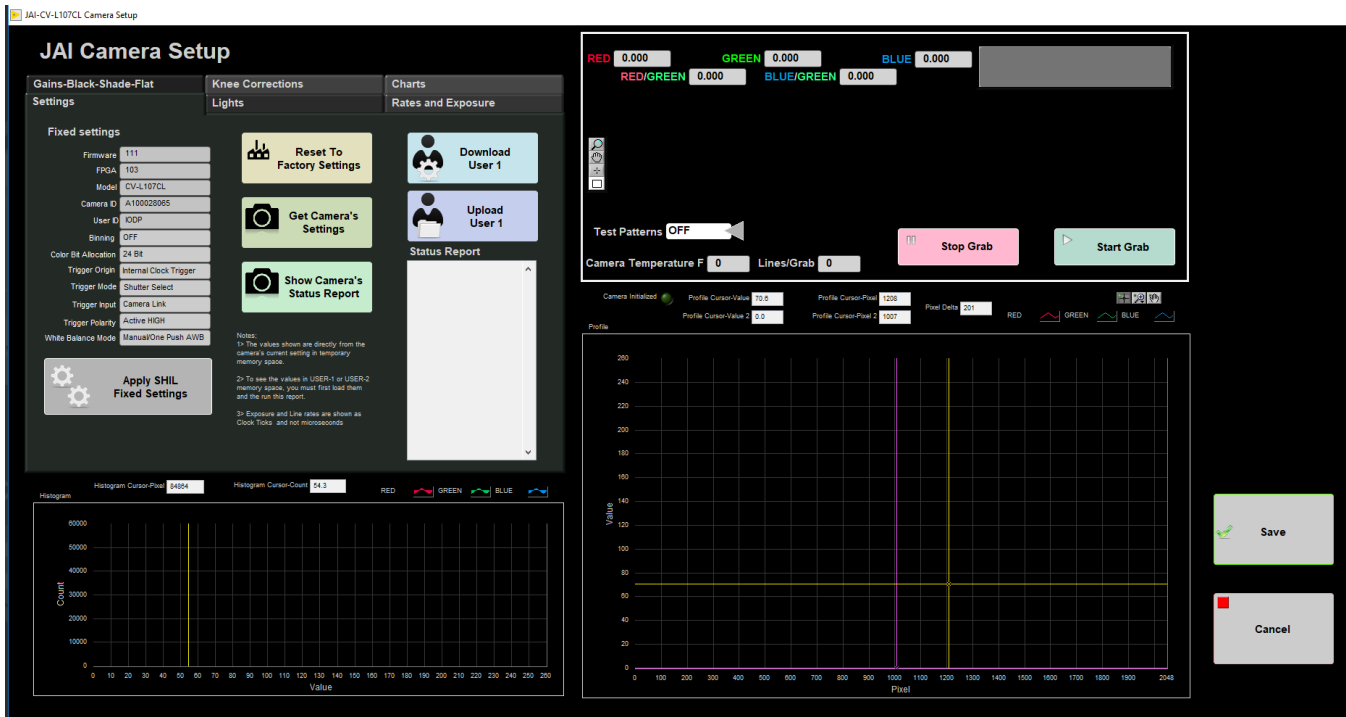

Figure 3. General Camera Setup fixed Settings
- Instruments > Camera: JAI Camera Setup (Figure 3)